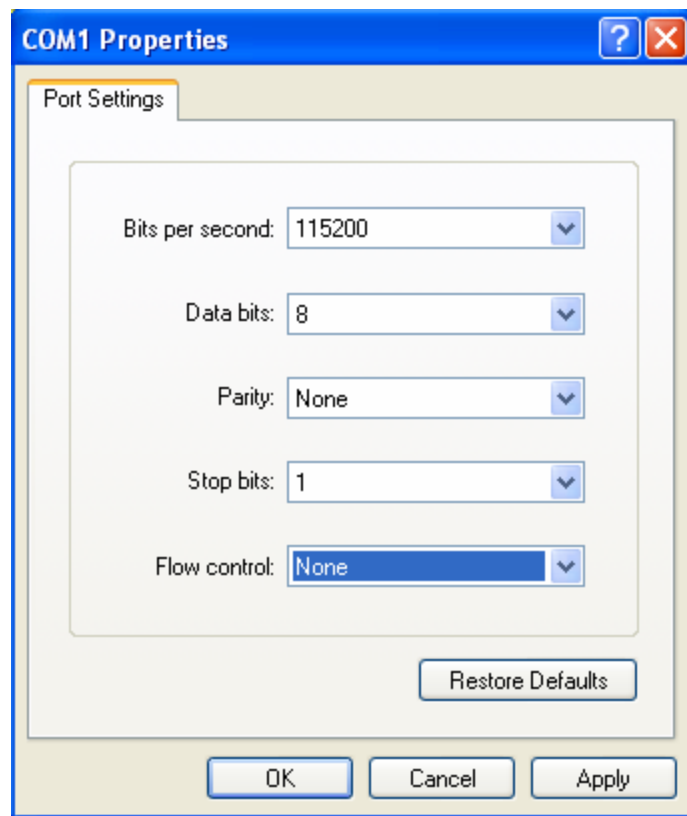

Fig 5
2) Put in the name "hikvision". And do step 1 again. Then enter into fig 4 and select COM1 and click "OK" to enter into fig 5.